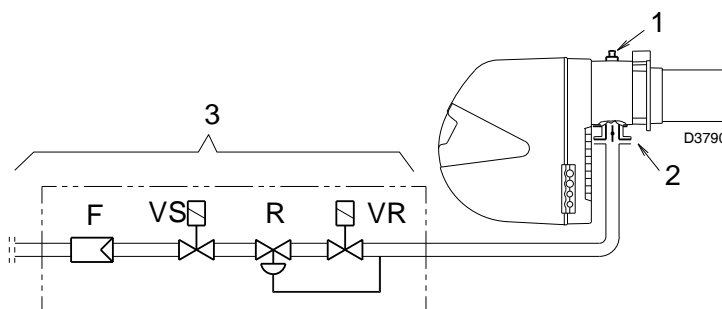

Fig. 40
Gas pressure measured at the test point 1)(Fig. 40), with:
Load loss at gas butterfly valve 2)(Fig. 40) with maximum opening: 90°.
Load loss at train 3)(Fig. 40) including: adjustment valve VR, safety valve VS (both fully open), pressure adjuster R, filter F.
- Subtract the combustion chamber pressure from the gas pressure measured at test point 1)(Fig. 40).
- Gas pressure at test point 1)(Fig. 40) = 7.4 mbar
To know the required gas pressure at test point 1)(Fig. 40), set the maximum output required from the burner operation, then:
- Read, on the right (column 1) the socket pressure 1)(Fig. 40).
gas pressure at test point 1)(Fig. 40).